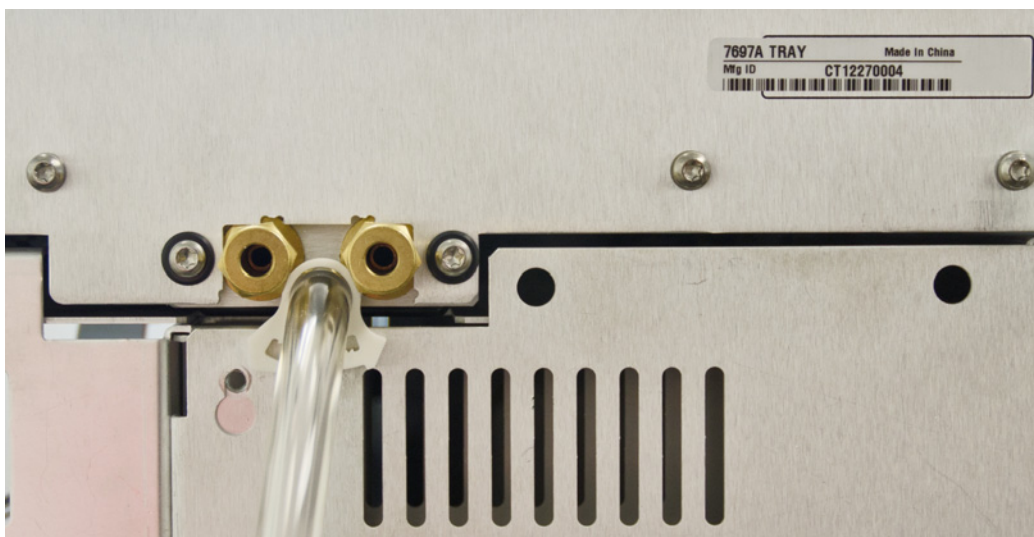

Figure 13 Drip tube and clamp installed on the back of the cooling plate
- b Install the clamp and tube into the fitting shown in Figure 13.